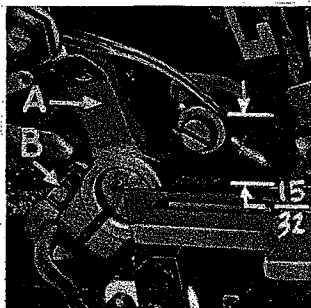

Fig. 4
With throat plate in position, needles should center in the front end of needle slot. When needles are at high position, the needle points should be set $\frac{15}{32}$ inch above throat plate (Fig. 4) for 39500 AC.
For 39500 AB, 39500 AE the needle points should be set $7/16$ inch above the throat plate. Move needle driving arm (A, Fig. 4) by loosening clamp screw (B). Remove throat plate.